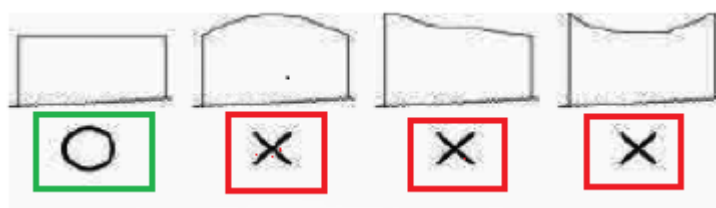

Figure 81. Printer paper cut
- Cut new paper roll end correctly to prevent paper jam, as shown in Figure 81